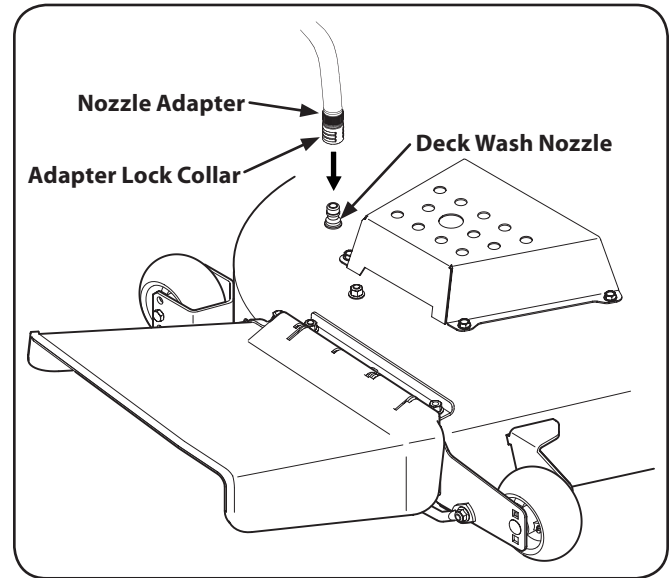

Figure 6-5
4. Attach the hose coupler to the water port on your deck. See Fig. 6-5.